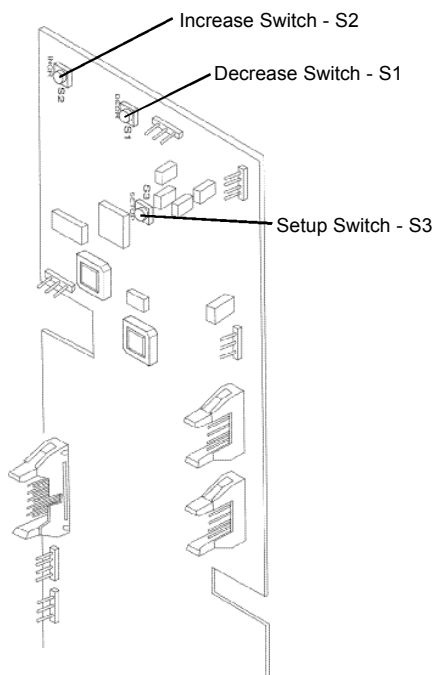

Figure 2.0.4
4. Press and hold the "SETUP" switch (S3 on the microprocessor board) for 4 seconds until you hear the second "chirp". The "PROGRAM STEP" will display "c1" and "CAL" will be displayed on the Volume Display (Figure 2.0.4).
6. Press and release the "SETUP" switch (S3) (Figure 2.0.4). You will hear one chirp. The "PROGRAM STEP" will display "cA".